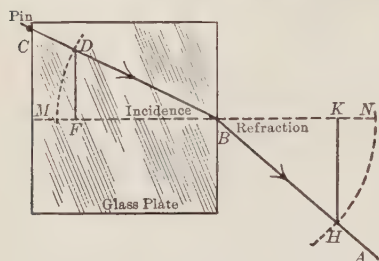

FIGURE 306.—The index of refraction equals  $HK/DF$ , the ratio of the speed of light in air to its speed in glass.
**EXPERIMENT 82.**—Place a rectangular piece of plate glass on a sheet of paper and draw a pencil line around the glass so that it may be returned to its original position if moved. Now set a pin against the glass a little above the middle of the side opposite the observer (Figure 306). Looking obliquely through the edge of the glass nearest you, draw a line  $AB$  to the edge of the glass in such a manner as to appear to go toward the pin, without being perpendicular to the edge of the glass. Remove the glass and draw  $BC$  from  $B$  to the pin. Draw the